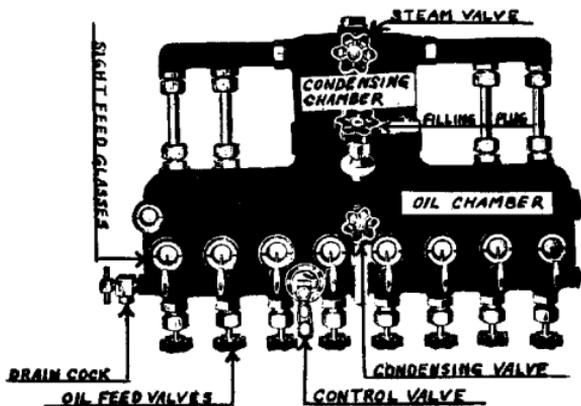

Fig. 23. - HYDROSTATIC LUBRICATOR
**Hydrostatic Lubricator**—The hydrostatic lubricator (Fig. 23, page 33) is located on the back head of the boiler and is used entirely for lubricating the interior of the cylinders and valves of the locomotive, air pumps, feed water pump and stoker.